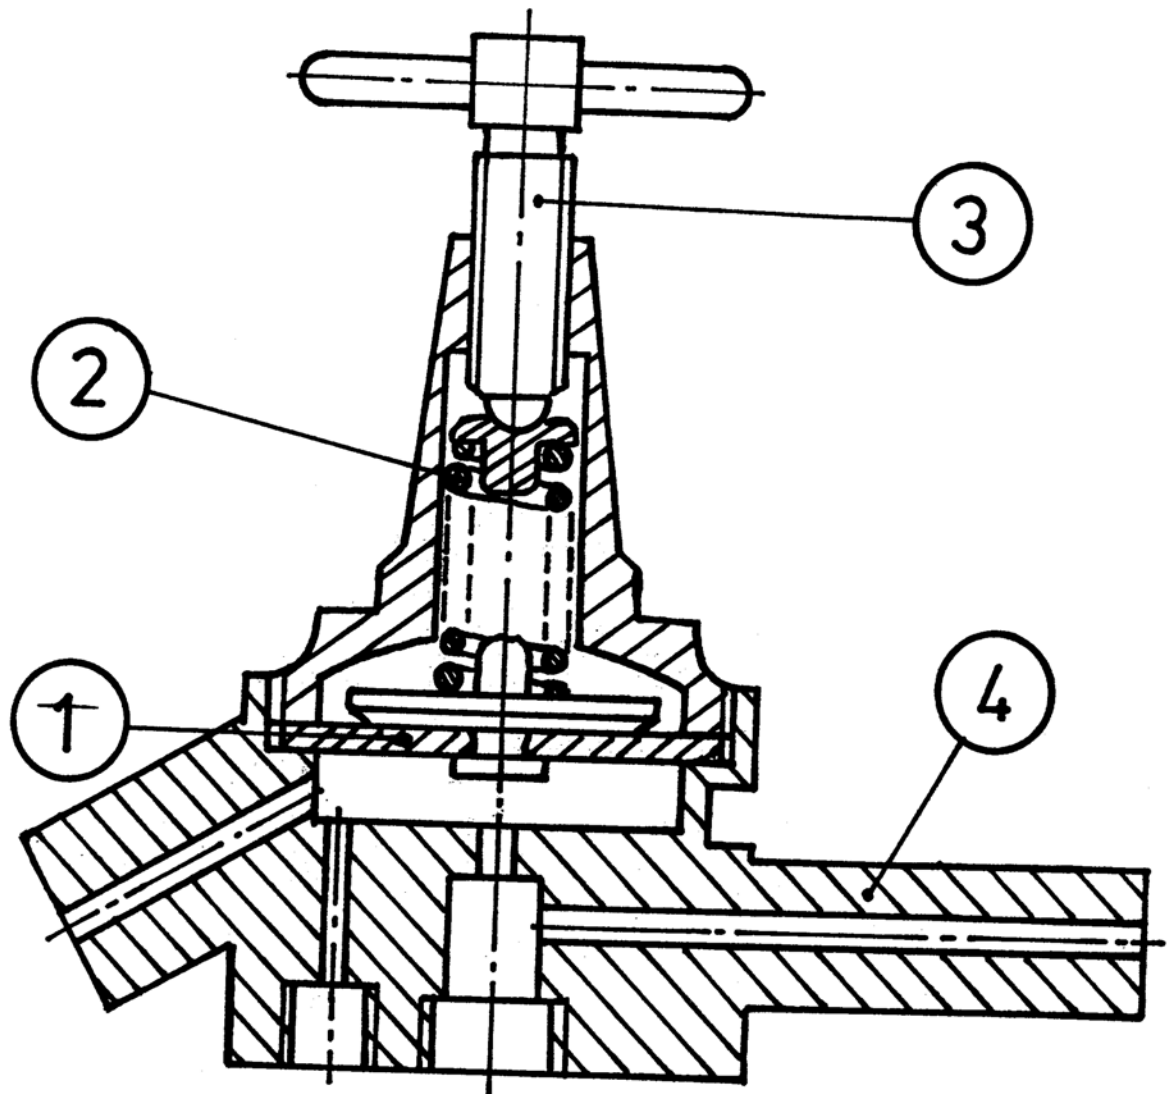

FIG. 5 *FÍOR 5*
- (b) (i) Identify the mechanism shown in Fig. 5.